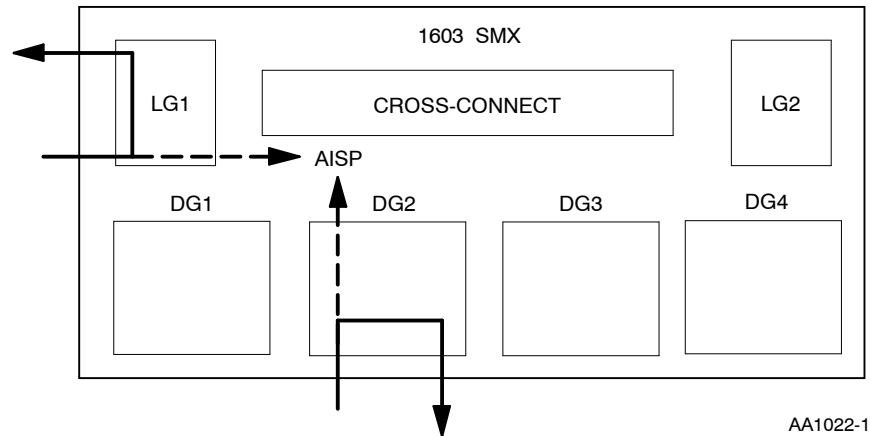

Figure 2. OC12 Loopback Toward Facility
- 6 See Figure 2. Operate a loopback toward the facility: